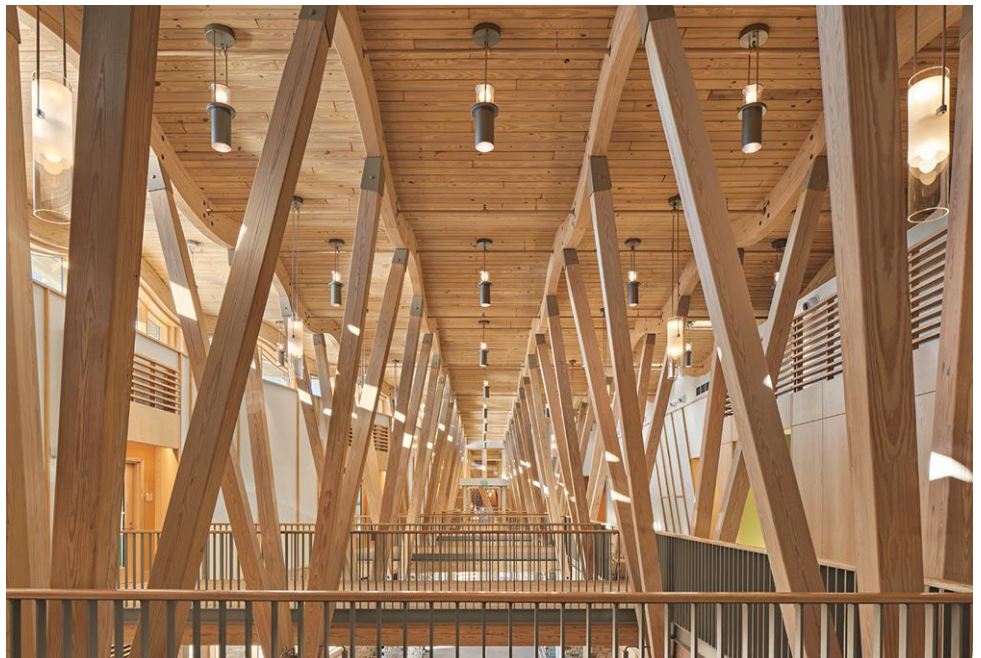

Figure 3 Tree columns in the "orchard," showing sinusoidal curved roof plane. Photo courtesy of Robert Benson Photography.
- "Tree" columns consist of two or four straight-sloped glued-laminated members connected at a common base plate on concrete piers – the "trunks." (see Figure 3)
- Roofs in the “orchards” consist of curved glued-laminated beams supporting tongue and groove decking. Curvature repeats to form a sinusoidal wave along the length of the “orchard.” (see Figure 3)